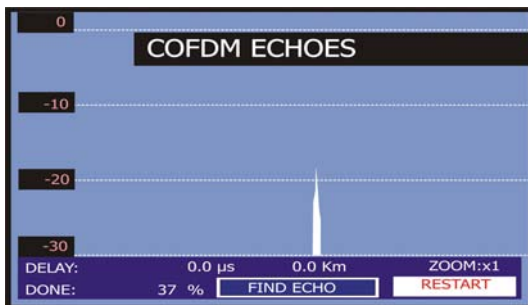

Figure 56.- Finding ECHOES.
2. Press the rotary knob to start finding (Figure 56.-).